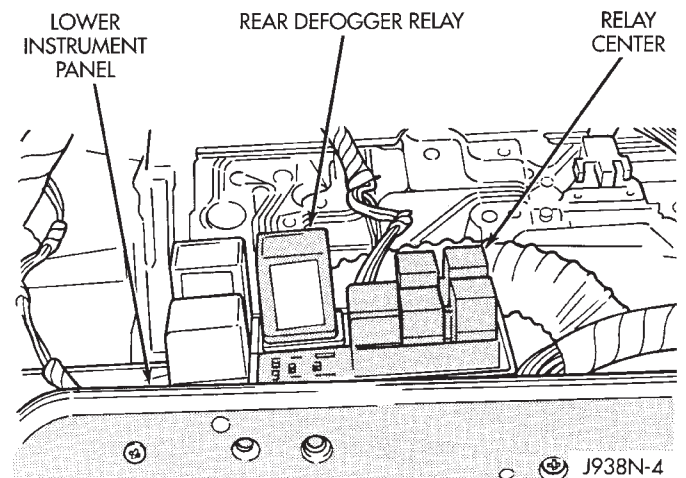

Fig. 5 Rear Defogger Relay—XJ
(1) Remove the rear defogger relay (red) from the relay center (Fig. 5).